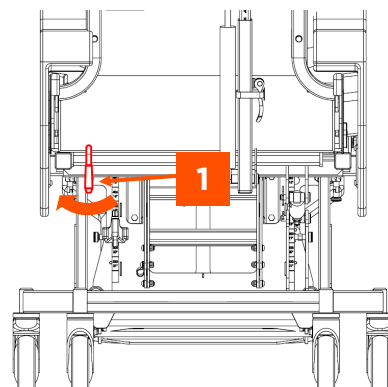

FIGURE 13
3. At the back of the chair, under the seat on the lefthand side, locate the depth adjustment lever (Fig 13, Item 1).